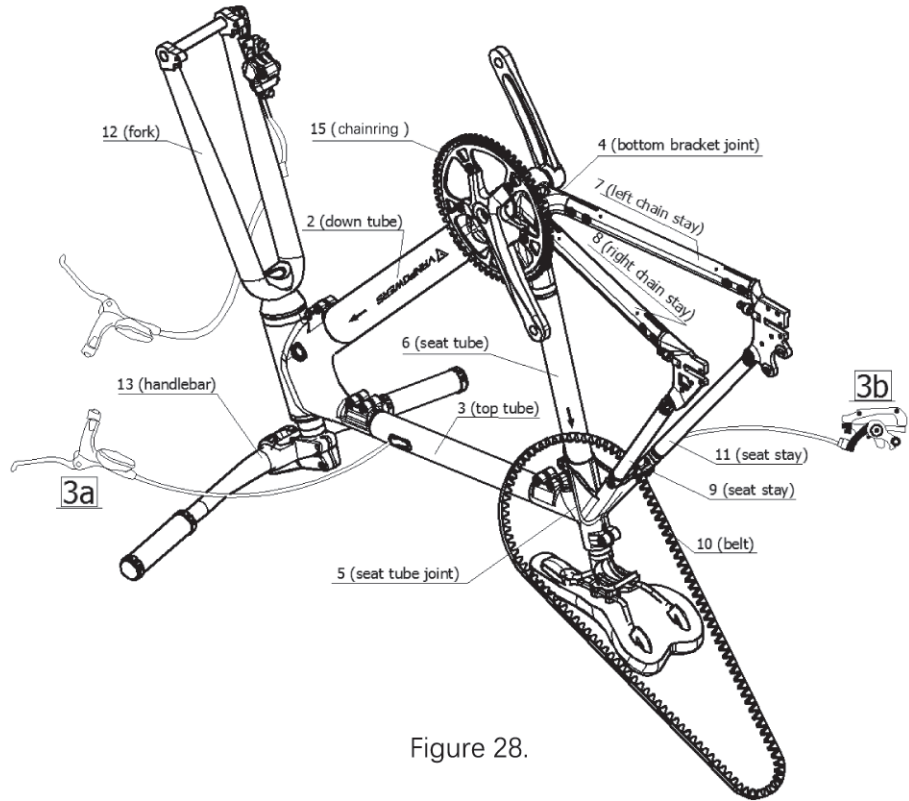

Figure 28.
b. Check the position of Part 10 and confirm that Part 10 covers Part 9 and is at the bottom of Part 9, as shown in Figure 28.